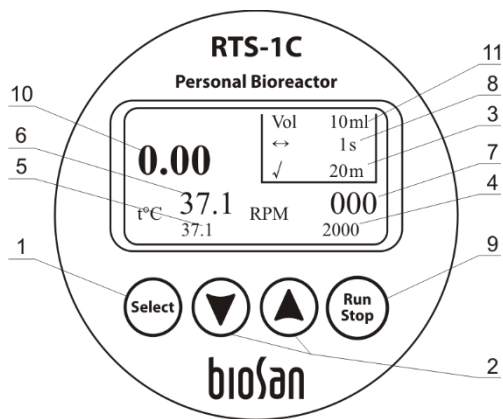
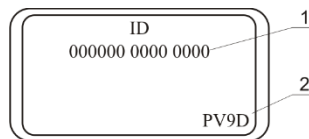

Figure 2. Control panel
Figure 3. ID and hardware version
5.1. Checking hardware version. To check the hardware version, press ▲ and ▼ keys (fig. 2/2) simultaneously. Display will show a new screen with a unique fourteen-digit unit ID (fig. 3/1) and the hardware version (fig. 3/2). Please refer to the number in the version for further calibration. Display will change back to the previous screen after 4 seconds.
- Set the volume parameter of the distilled water on the display (fig. 2/11);
- Press **Run Stop** key (fig. 2/9) (the device will start the OD measurement cycle by accelerating to 2000 rpm);
6.5.1. Press the **Select** key (fig. 2/1) to choose a parameter that you want to change (the active parameter is blinking).
6.5.2. Use ▲ and ▼ keys (fig. 2/2) to set the necessary value (if the key is pressed for more than 2 seconds the parameter should change quicker).
6.5.3. It is possible to set time between optical density measurements (fig. 2/3), spinning speed (fig. 2/4), temperature (fig. 2/5), time between Reverse Spins (fig. 2/8), operating volume (fig. 2/11). Actual values of the temperature and speed are displayed on the display (fig. 2/6 and fig. 2/7).
6.5.4. Press the **Run Stop** key (fig. 2/9) to start and stop operation.
6.5.5. Press the **Run Stop** key (fig. 2/9) to stop the operation.
Caution! Operation stop will not stop the heating process. To stop heating process set temperature has to be decreased manually until “off” indication appears (fig. 2/5).